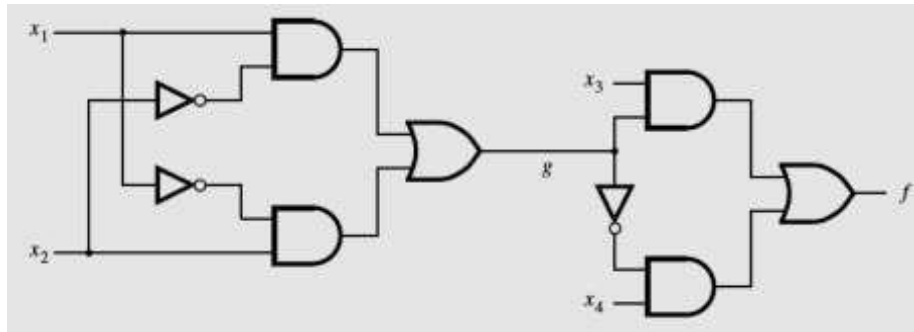

Figure 4.1
- For each bit position, we can use a full-adder circuit, connected as shown in Fig. 4.1.